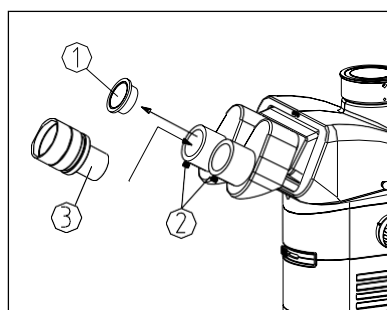

Fig. 7
- 1) Take down the eyepiece tube cover①.
- 2) Insert the eyepiece③ into the eyepiece tube, until it touches the bottom. Lock the eyepiece by the lock-screw ② (See Fig. 7)